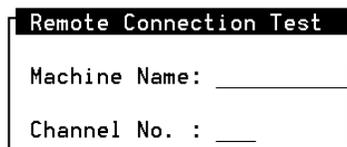

Figure 20-2. Remote Connection Test Screen
5. Select Remote Connection Test from the menu. After you select the option, you see the Remote Connection Test screen as shown in Figure 20-2.